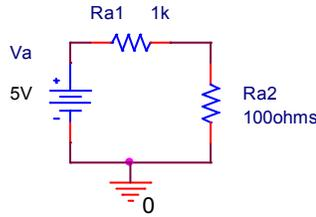

Figure A-4.
- Wire the circuit shown in Figure A-4 in PSpice.